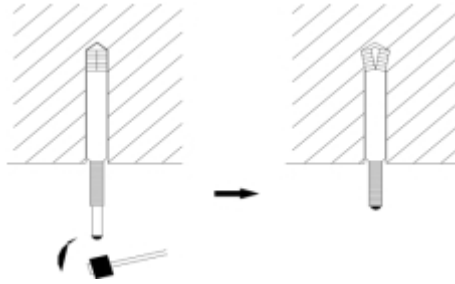

Figure 3: Installation of the Expansion Bolt
1. Drill hole suitable for the M10 expansion bolt. Insert the M10 expansion bolt into the hole, and then knock the nail into the bolt. Refer to the drawings for the distance between holes and see Figure 3 for the installation of the expansion bolt.